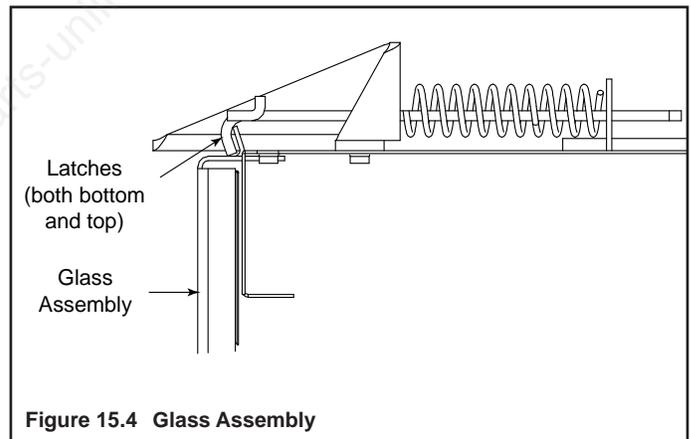

Figure 15.4 Glass Assembly
- Pull the four (30/33/36 in. appliances) or seven (42 in. appliance) glass assembly latches out of the groove on the glass frame. Refer to Figure 15.4.
- Place a small amount of 1/2 in. diameter pieces (dime-size) rockwool on the burner pan so that the rockwool touches, but does not cover, the holes in the burner pan (refer to Figure 15.4). This will provide the “glowing embers” look.
- Replace glass latches. See Figure 15.4.